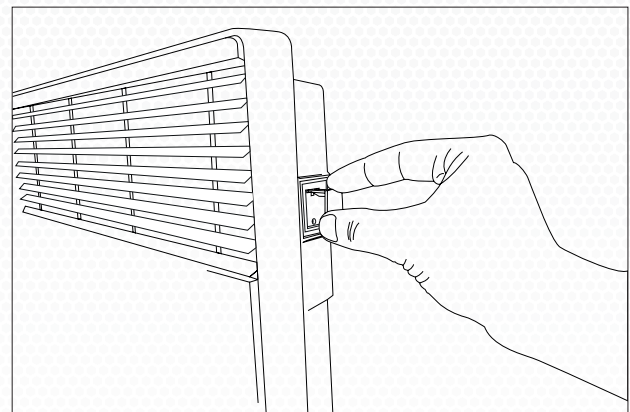

FIG:2
- Holding the key with the tooth at the top, note the T shape of the tooth. On the top right hand side of the heater is a plastic cover, on this you will see a corresponding T slot. Locate the key into the T slot on the heater (see fig. 2).